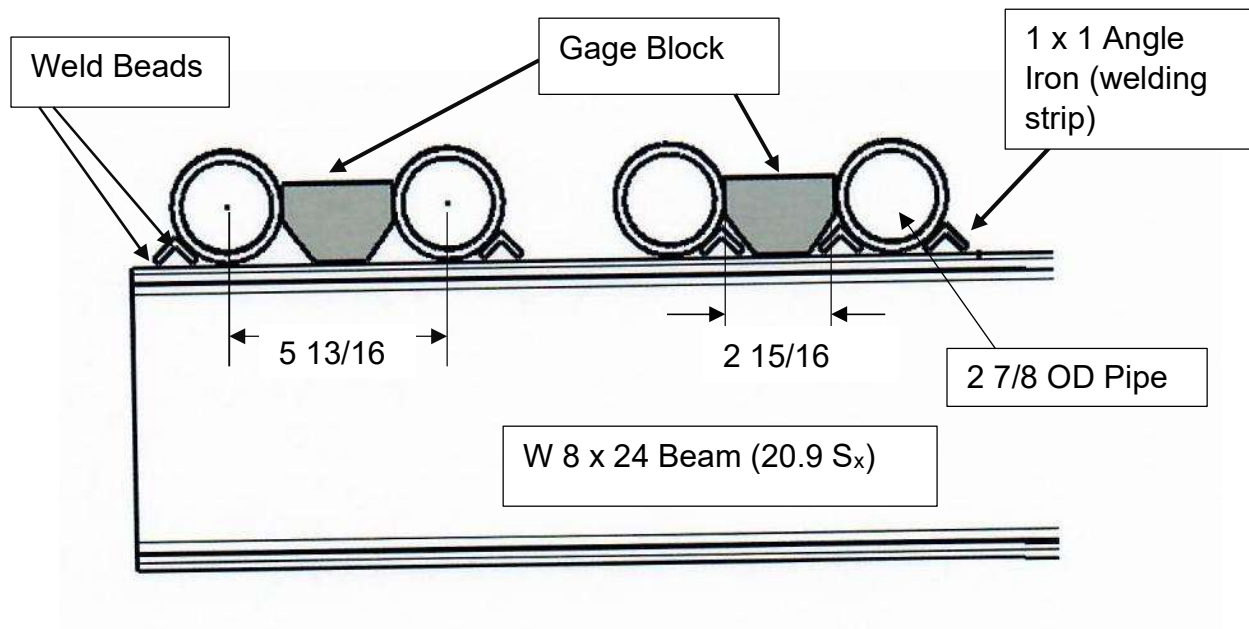

Figure 6 Welding Pipe to Beam
- Using short sections of angle iron to get good weld beads - (1 x 1 x 4 x 3/16) Angle Iron is shown in Figure 6 above to weld the runner to each of the 4 beams. Angle Iron welding strips are approximately 4 inch long. Angle weld strips do not need to be longer than the width of the flange.
- A weld bead is run top (apex) of the angle and at the bottom of angle on the beam. This is done on both sides of all runners on each of the four Beams. See Figure 6 above.
- Weld angle to runners starting on the left end as shown in Figure 6. Make sure that runner is flat on all 4 beams before welding.
- Splitting the W Beam as shown in Figure 6 & 7 makes this a T Beam. T Beams can also be purchased or they can be built from Plate. Thickness and dimension of Plates used must be sufficient to provide the Section Modulus required for the Design Load.